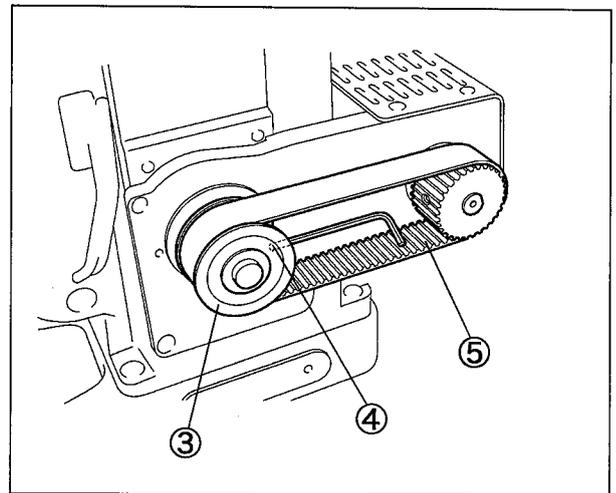

Fig. 55
2. Loosen the screws ④ of pulley(front) ③. (Fig. 55)
6. Tighten the screws ④ (2 pcs.) of the pulley(front) ③. (Fig. 55)